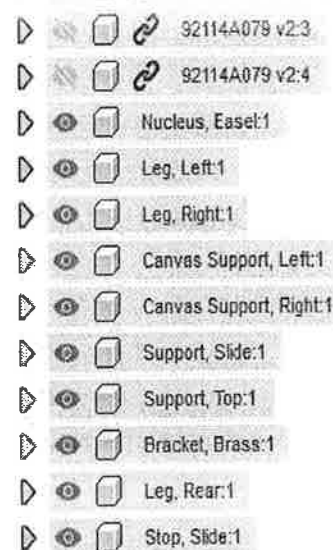

Figure 16–33
3. In the **Bodies** folder, hold <Ctrl> and select the remaining nine bodies. Right-click and select **Create Component from Bodies**. Once completed, the bottom of the BROWSER should display as shown in Figure 16–33. The 10 bodies are now 10 separate components in the design.